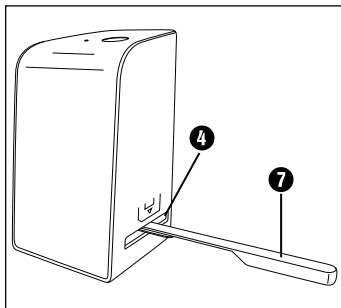

Figure 3
- ◆ Clean the surfaces of the background lighting inside the device with the cleaning brush **7**. To do this, push the cleaning brush with the cleaning surface facing downwards into the slot **4** on the right (see figure 3).